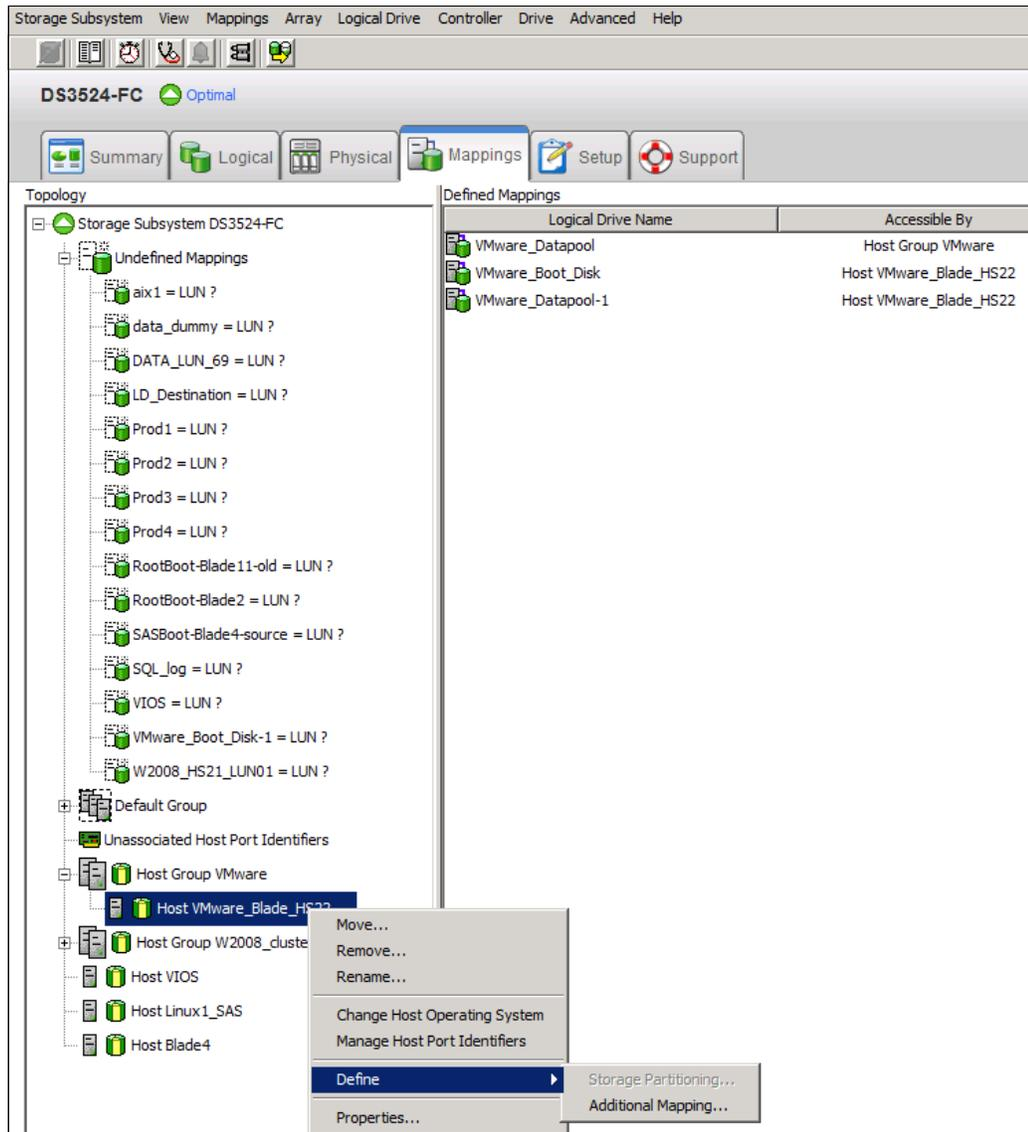
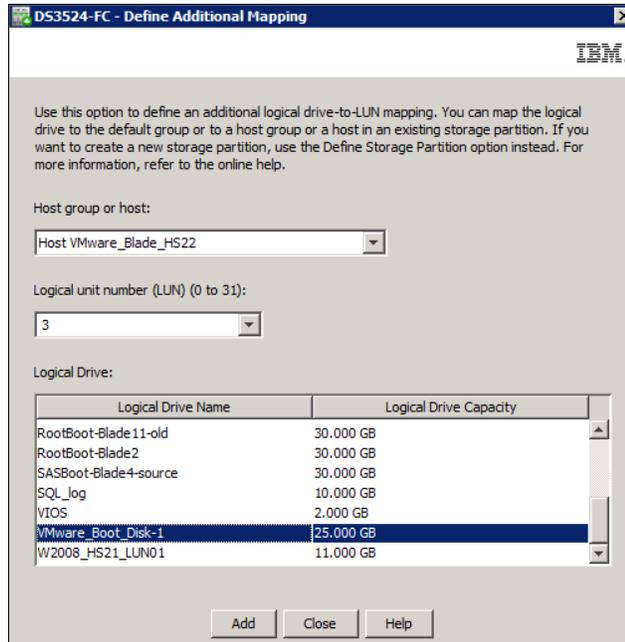

Figure 2-24 Define additional mapping from subsystem management
Figure 2-25 Define Additional Mapping
3. Right-click and select **Define** → **Additional Mapping** (Figure 2-24).
4. In the Define Additional Mapping window (Figure 2-25), follow these steps:
In the examples shown in Figure 2-24 on page 36 and Figure 2-25, the FlashCopy logical disk VMware_Boot_Disk_1 is made available to the Host VMware_Blade_HS22 host. This availability enables the Host VMware_Blade_HS22 to access and mount the disk as part of its own file system.